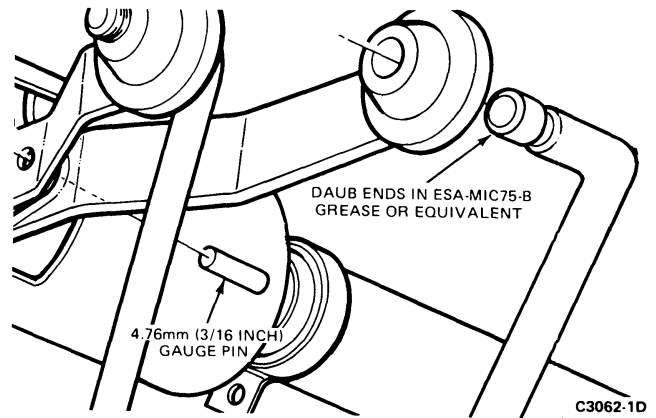

FIG. 3 Gauge Pin Installation—E-100—E-350
1. Install a gauge pin of 4.76mm (3/16 inch) diameter through the steering column shift levers and the locating hole in the plastic spacer, (Figs. 3 through 5).